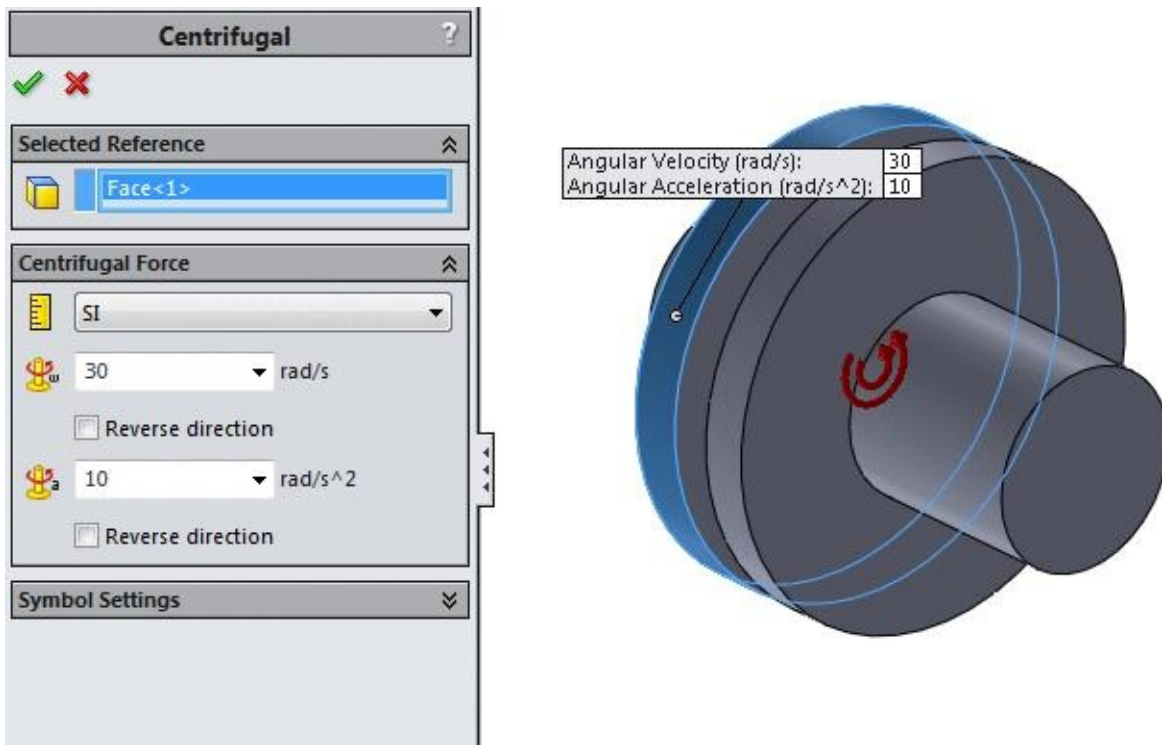

Figure-47. Preview of centrifugal force
- Click in the **Angular Acceleration** edit box and specify the value of angular acceleration. Preview of the centrifugal force will display; refer to Figure-47.